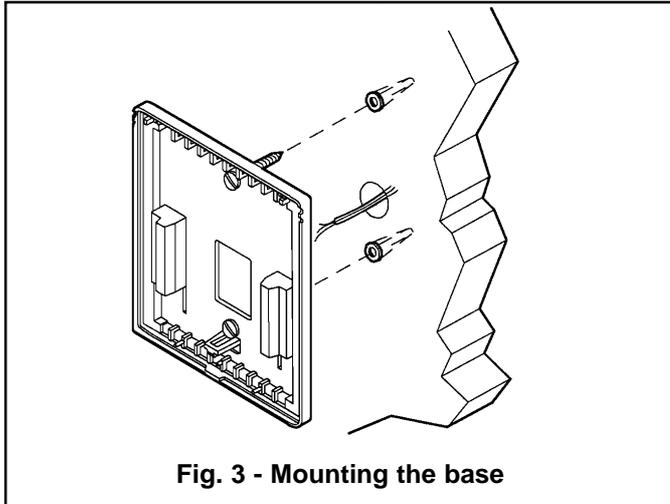

Fig. 3 - Mounting the base
3. Use the supplied anchors and screws for mounting on drywall or plaster. Drill two 5 mm holes at the marked locations, and tap nylon anchors flush to the wall surface and fasten. (See figure 3).